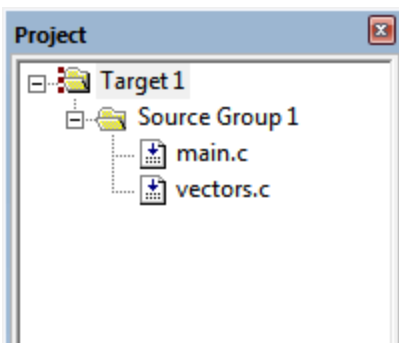

FIGURE 1 - PROJECT WINDOW HIERARCHY
- 1.2. Add the sources "main.c" and "vectors.c" (source code available in the "Appendix" section). The "Project" window should look like Figure 1 below.